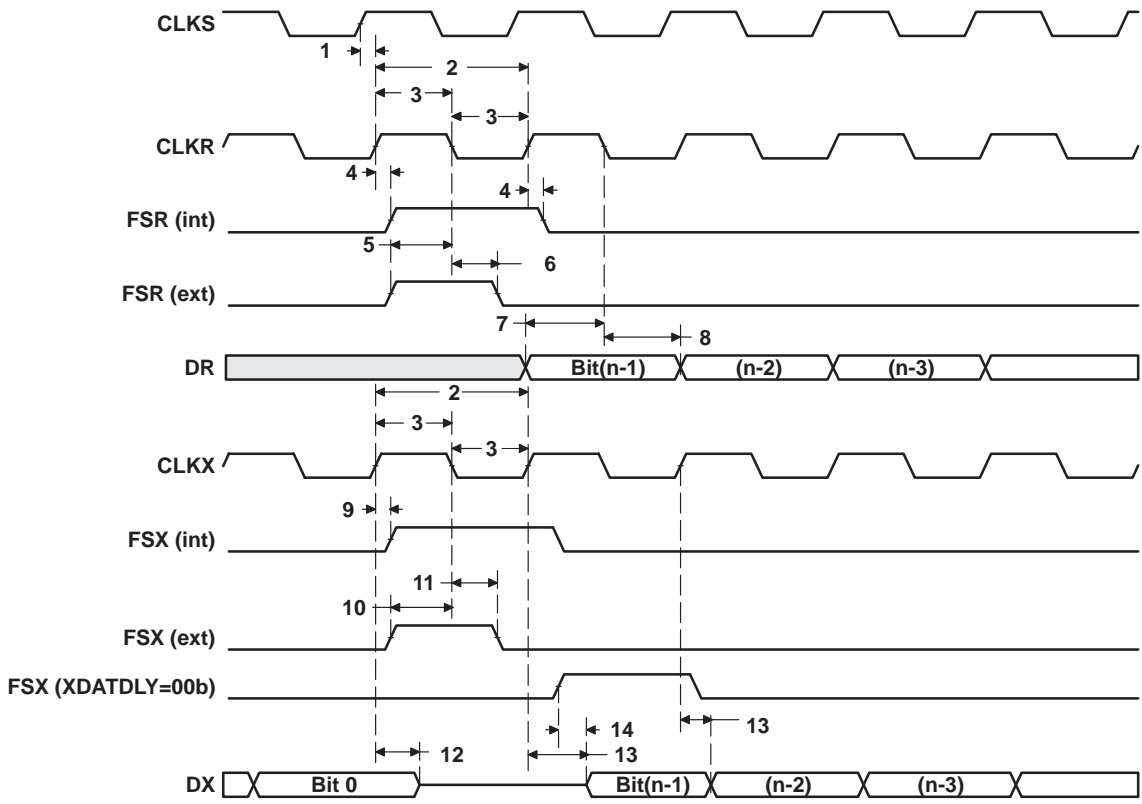

Figure 31. McBSP Timing
### timing requirements for McBSP†‡ (see Figure 31)
**switching characteristics for McBSP†‡ (see Figure 31)**